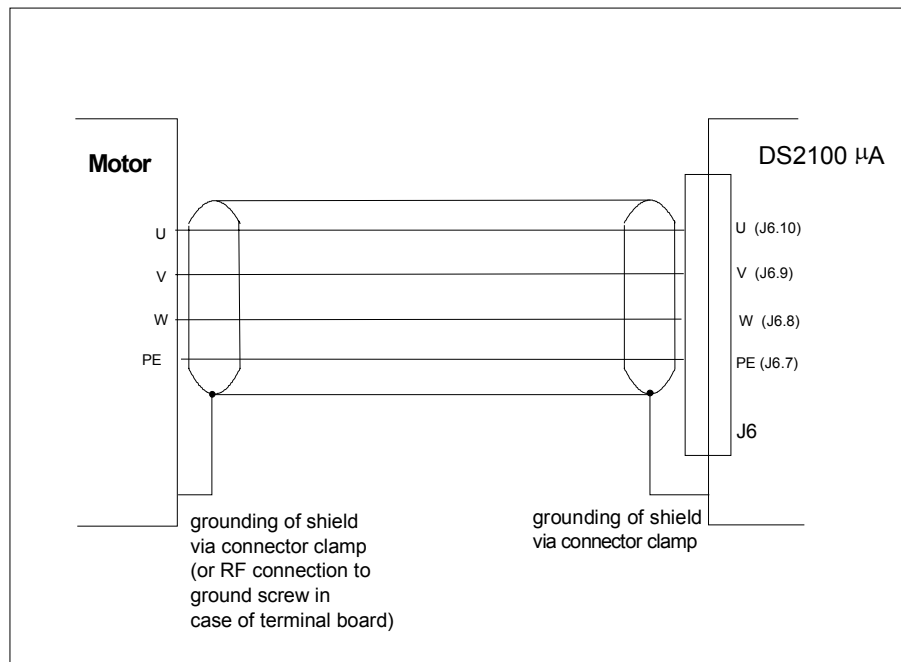
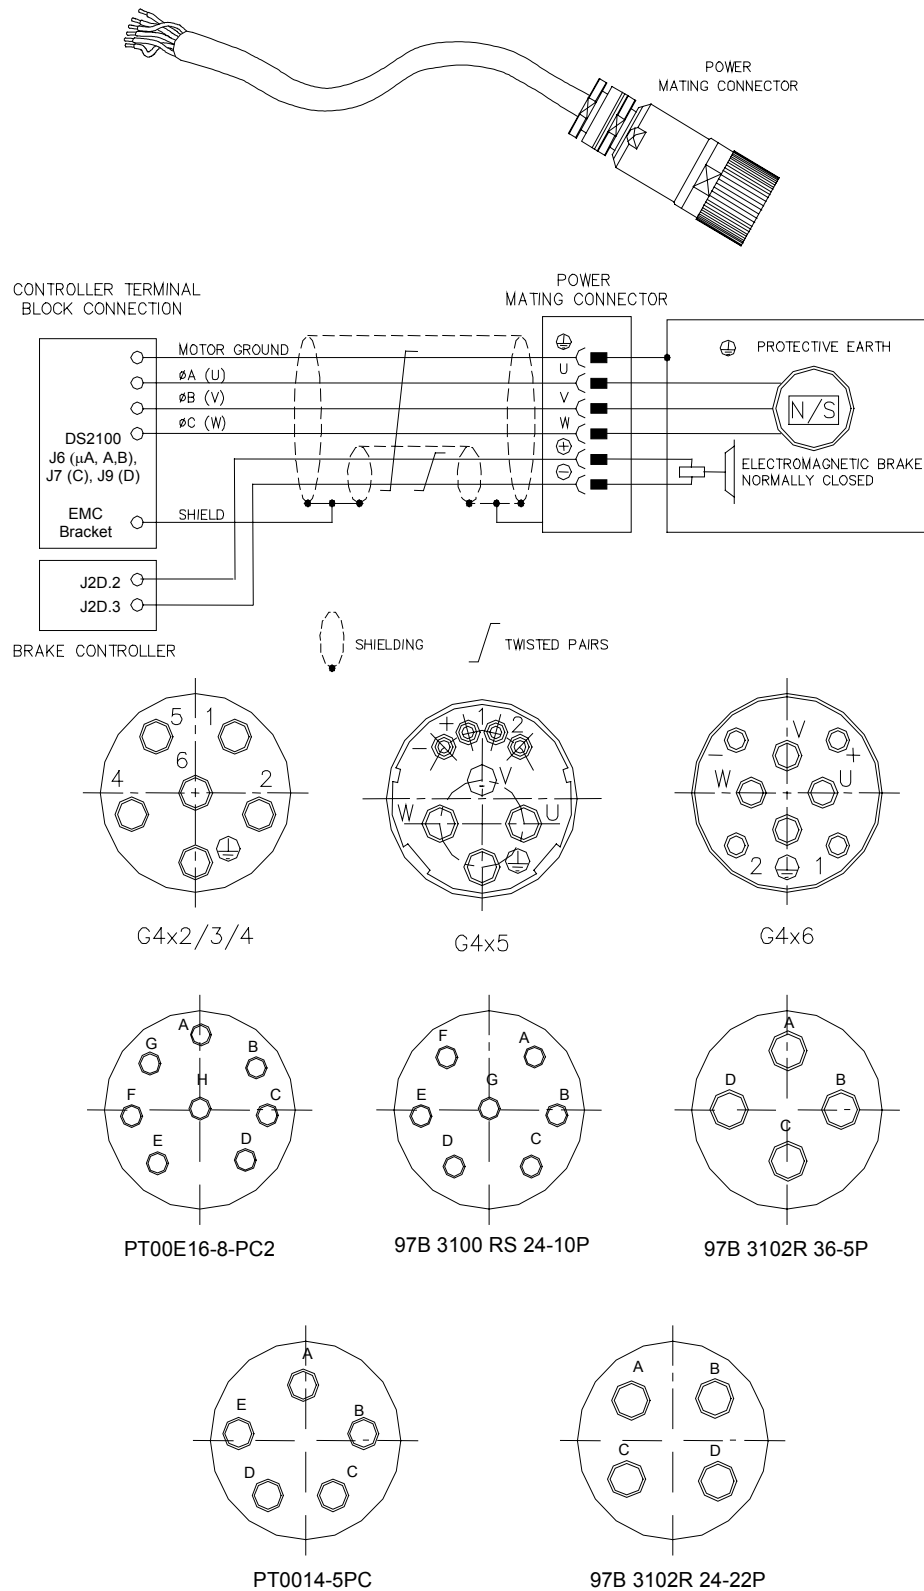

Figure 3.29 DS2100 μ A Motor Power Connection
Figure 3.35 Motor Power and Brake Connectors
Wire the motor power connector in accordance with Figure 3.29 to Figure 3.35.
* The pins of the brake terminals at the motor cable connector end depend upon the cable size. Refer to Figure 3.35 for details.